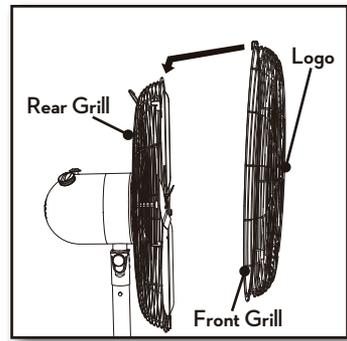

Figure 15
- Center the front grill by aligning the logo on the grill hub so it is horizontal and parallel to the floor. Figure 15.